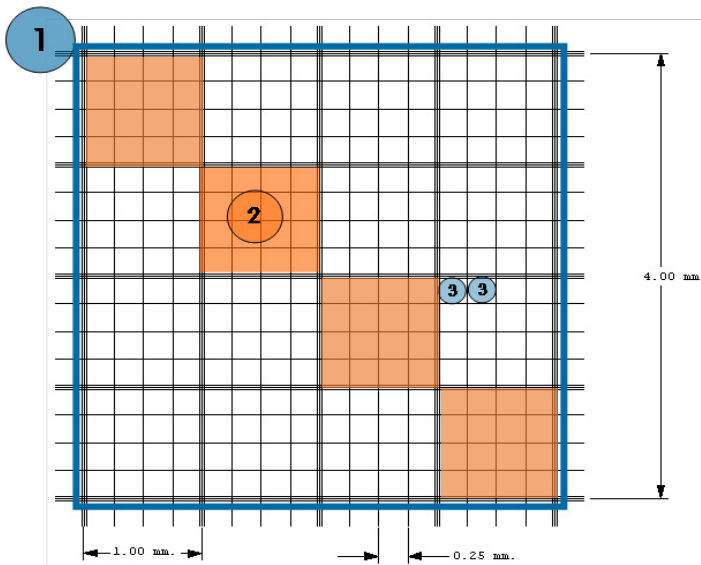

Figure 1. Lay-out of a Fuchs Rosenthal Counting chamber
*We highly recommend to perform the cell counting manually using a hemocytometer. For instance, by using the Fuchs Rosenthal Counting Chamber (**Figure 1**):*
Count 4 #2 squares according to **Figure 1**